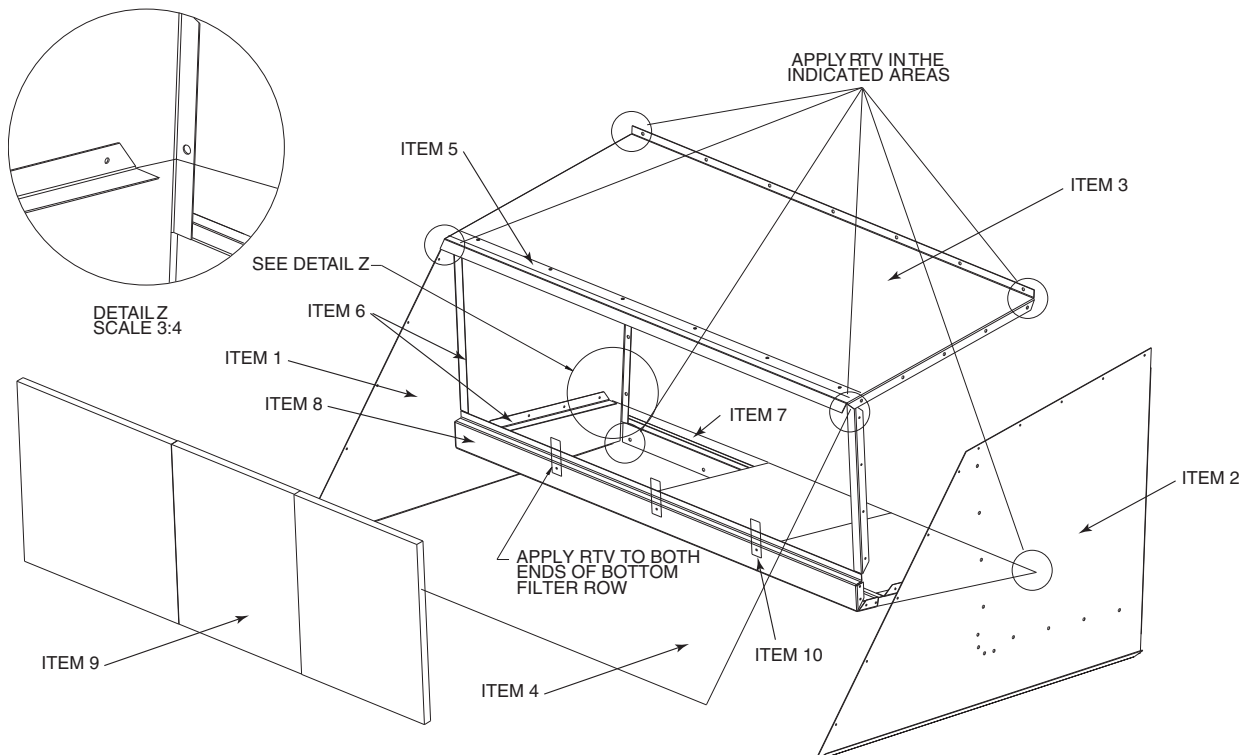

Fig. 37 — Large Economizer Hood Assembly
Large hoods are shipped disassembled in the economizer section of the unit behind the large economizer hood shipping cover. See Fig. 37 for assembly details for large economizer hoods. To install the large economizer hoods, perform the following procedure:
2. Remove the packages containing the disassembled large economizer hoods (total of 2 packages). Each package contains the following (see Fig. 37 for Item numbers): left hood side (Item 1), right hood side (Item 2), hood top (Item 3), hood front (Item 4), top filter flange (Item 5), 4 side filter flanges (Item 6), bottom support (Item 7), front support (Item 8), 6 filters (Item 9), 9 filter clips (Item 10), seal strip, and fasteners.
16. Apply RTV or similar sealant to 6 places shown in Fig. 37.